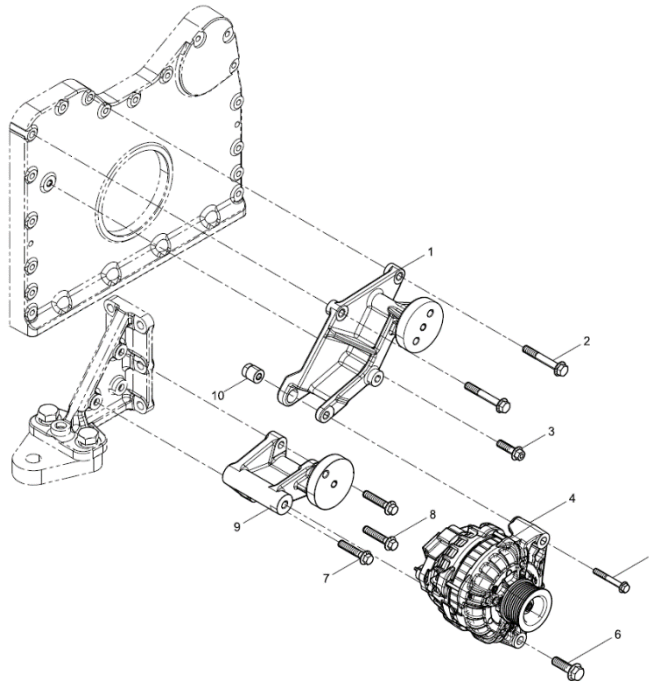

Figure 14. Alternator Pulley Assembly
2. Remove the bolts (Figure 14, Items 5 & 6).
3. Remove the alternator (Figure 14, Item 4).
1. Place the alternator (Figure 14, Item 4) onto the bracket (Figure 14, Item 9 & 1).
2. Insert and torque the bolts (Figure 14, Items 5 & 6).
1. Remove the bolt (Figure 14, Item 3).
2. Remove the right-hand idler pulley (Figure 14, Item 7).
1. Place the right-hand idler pulley (Figure 14, Item 7) onto the bracket (Figure 14, Item 1).
2. Insert and torque the bolt (Figure 14, Item 3).